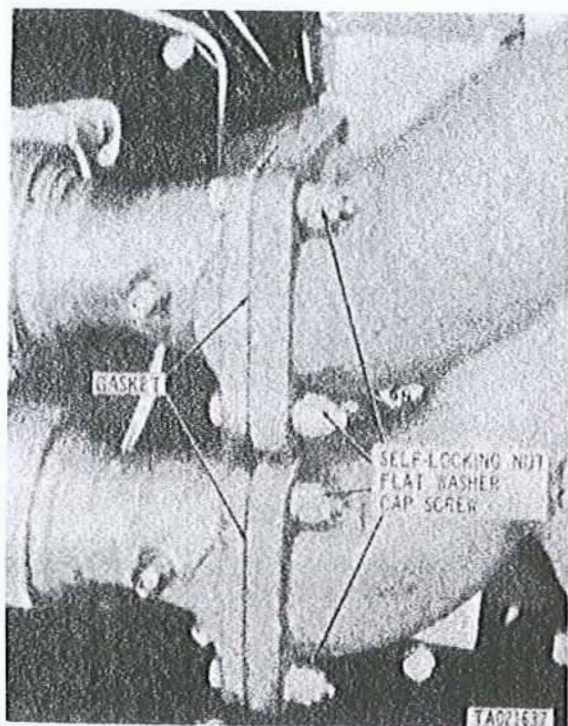

Figure 2-29. Disconnecting or connecting exhaust pipes at turbine housing.
(9) Remove eight self-locking nuts, flat washers and capscrews (fig. 2-29). Separate exhaust pipes from turbosupercharger and remove and discard two gaskets. Remove turbosupercharger (fig. 2-28).
(1) Install turbosupercharger on mounting base studs (fig. 2-28) and insert turbosupercharger oil drain tube into oil drain tube hose. Install new gaskets (fig. 2-29) and secure exhaust pipes to turbine housing with eight self-locking nuts, flat
(1) Install turbosupercharger on mounting base studs (fig. 2-28) and insert turbosupercharger oil drain tube into oil drain tube hose. Install new gaskets (fig. 2-29). Position upper oil filler tube support as shown in figure 2-29.2 and secure support and exhaust pipes to turbine housing with eight self-locking nuts, flat washers and capscrews. Tighten upper oil drain hose clamp (fig. 2-28).